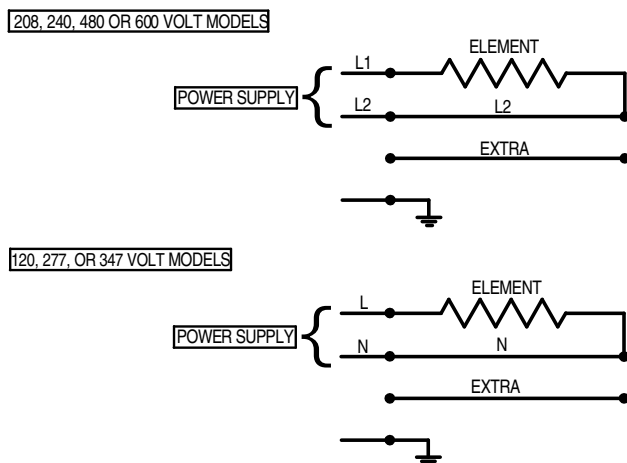

FIGURE 8 2 HEATERS
- L. If two or more heaters need to be connected together in parallel, see FIGURES 8 and 9 for details. In this case, the adjacent end covers of each unit are removed and not used, but the optional splice plate must be used. Any additional connectors needed must be rated for at least 90°C operation.